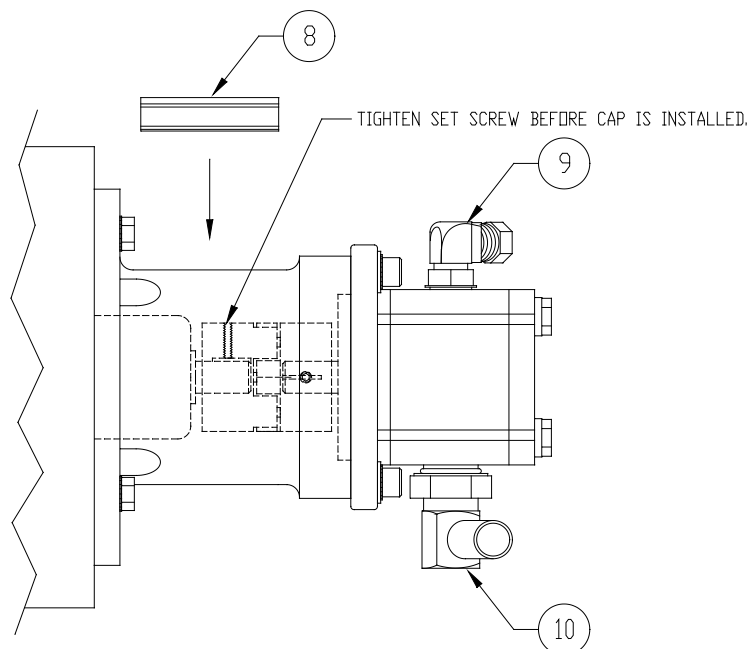

Figure 4
7. Install the access cover on the top or “12-clock” access hole of the bracket. See Figure 4.